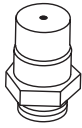

Figure 63
A. Remove the two orifices from the manifold and replace them with the ones provided in the kit. **Table 14** shows the orifice sizes for natural and propane models. **Figure 63** illustrates the orifice.